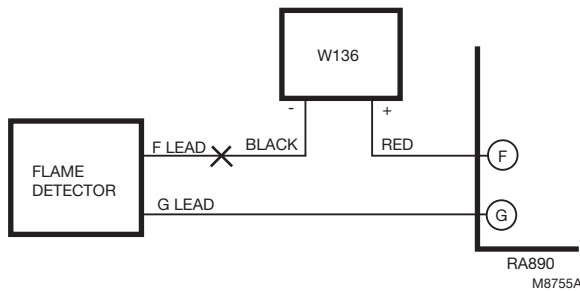

Fig. 8. Connecting meter to read flame current.
1. Check through wiring. Use a meter to check the continuity of all circuits. See Fig. 8.